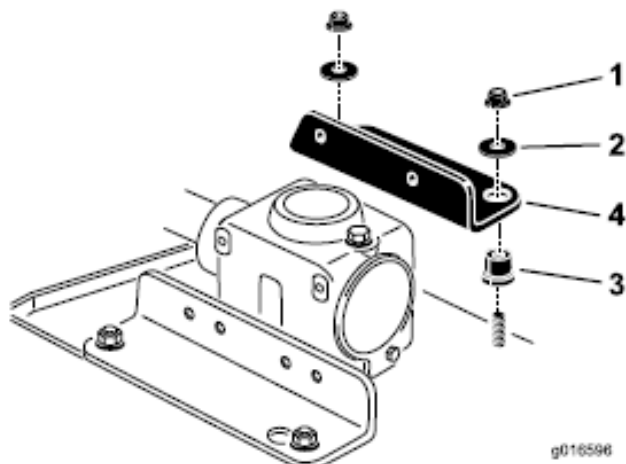

Figure 4
8. Install the (2) rubber mounts into the holes in the bottom of the new gearbox bracket (Figure 4).
9. Position the new gearbox bracket onto the mower deck threaded studs (Figure 4). Loosely install the previously removed washers and flange nuts.
10. Loosely install the (2) previously removed screws and lockwashers to secure the left side of the gearbox to the support bracket.